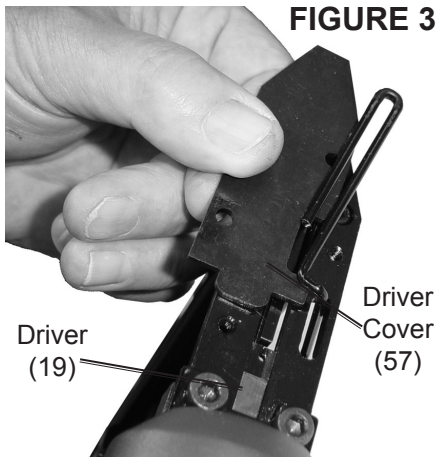

FIGURE 3
4. Carefully slide the Driver Cover (57) off around the Safety (52) and remove the jammed staple - see *Figure 3*. Use pliers to remove a stuck staple.
5. Inspect the Driver (19) for bends or breakage - see *Figure 3*. If it is damaged, do not use the tool until it is repaired by a qualified technician.
6. Lightly oil the Driver (19) and replace the Driver Cover (57). Replace the Safety Cover (54), being careful to line up the bolt holes and fit the Safety (52) into the slot. Replace and securely tighten all of the Safety Cover Bolts (53). The Safety (52) must move without sticking.
9. Press the Safety (52) of the Stapler against an appropriate piece of scrap wood and test fire the Stapler several times, checking for proper operation.